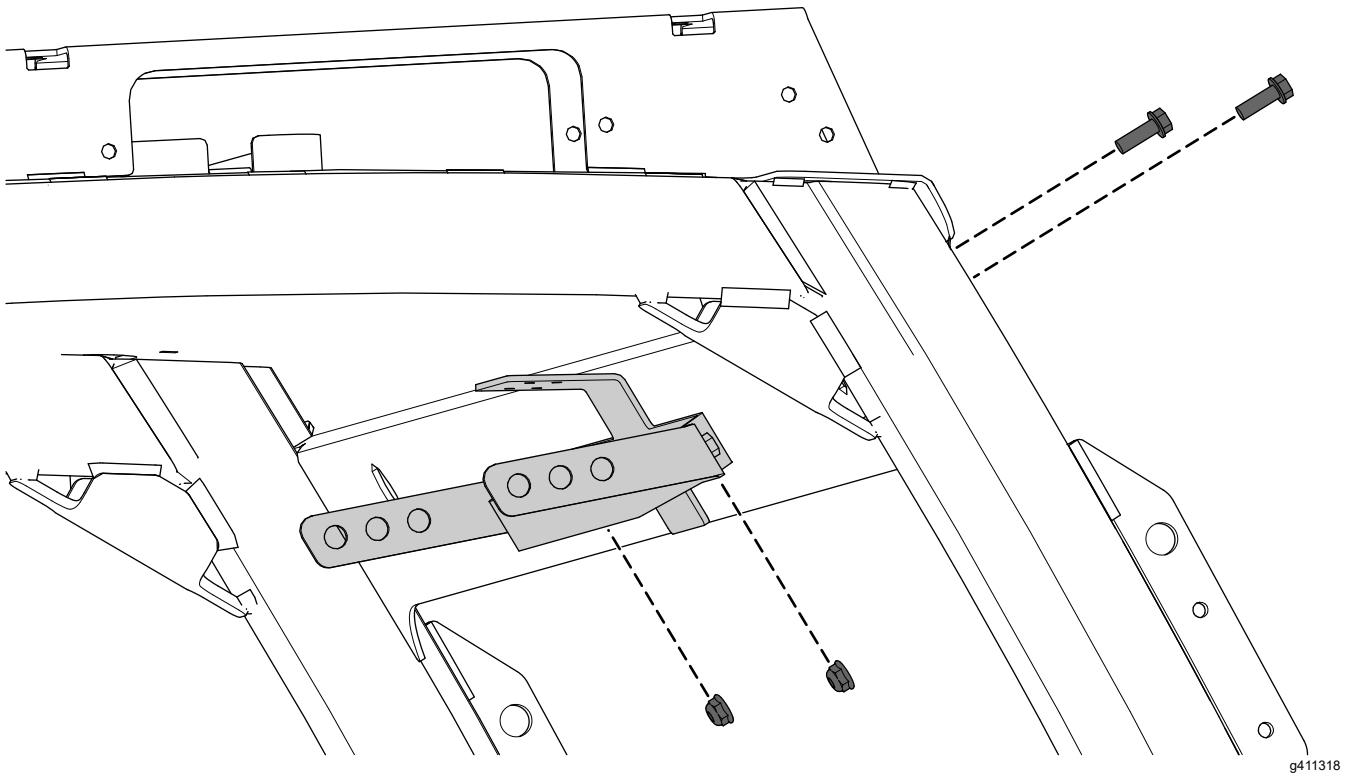

Figure 7
2. Secure the mirror-mount assembly to the canopy using 2 hex-washer head bolts (1/4 x 3/4 inch) and 2 locknuts (1/4 inch) as shown in Figure 7.